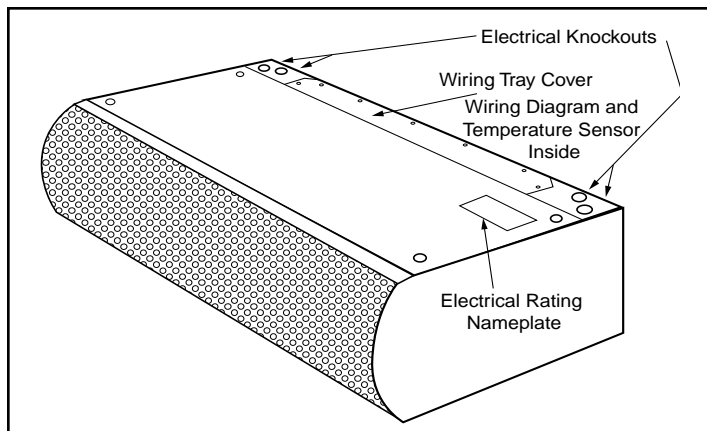

FIGURE 7 - Electrical Connections
that are comprised of modules, remove the wiring tray cover that is located closest to the electrical rating nameplate. Remove the required knockouts and attach the necessary electrical hardware. **Save the wiring diagram found inside of the wiring tray. See Figure 7.**
- D. The top of the air door is provided with two knockouts on each side allowing for a left or right hand power connection. Remove the wiring tray cover; on air doors that are comprised of modules, remove the wiring tray cover that is located closest to the electrical rating nameplate. Remove the required knockouts and attach the necessary electrical hardware. **Save the wiring diagram found inside of the wiring tray. See Figure 7.**
- A. Check the rating nameplate on the top of the air door for supply voltage and current requirements. **See Figure 7.** A separate line voltage supply with a suitable branch circuit protection device should be run directly from the main electrical panel to the air door. A disconnect switch for each branch circuit is a required part of this installation. **See Tables 2 & 3.**